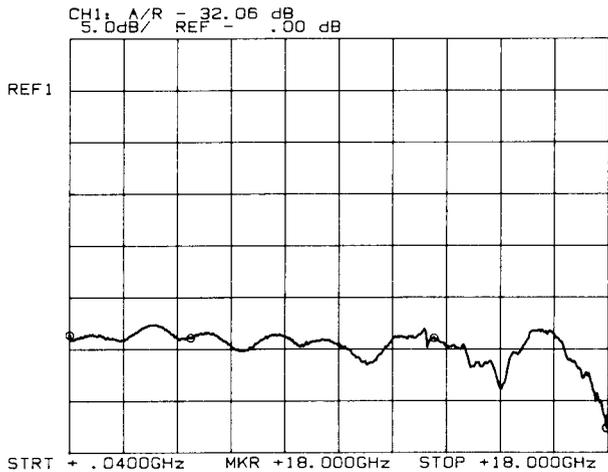

Figure 4-6. DUT Return Loss .04 to 18 GHz
12. Connect the DUT to the **TEST PORT**, and press **[SCALE] [5] [DB]** on the HP 8756A. The display should be similar to Figure 4-6.